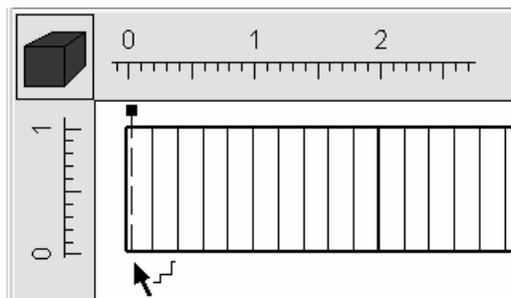

Figure 34. Drawing a line near the left side of the top view of the model.
- The next step is to create the boundary condition on the left side of the model. Select **Object|Create Straight Line**. Click on the top view of the model and then click again to draw a line near the left end of the model (fig. 34). Double-click or push the Enter key on the keyboard to finish drawing the line.